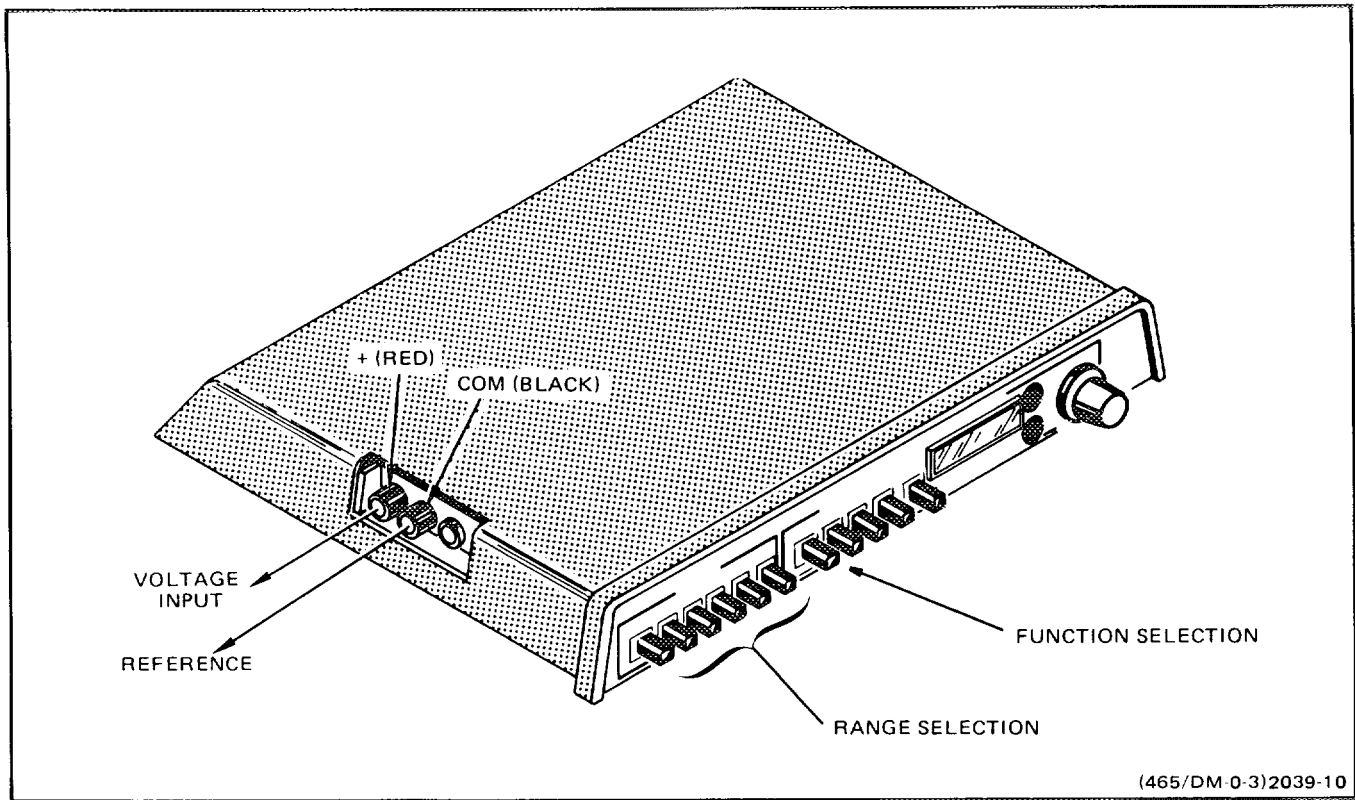

Fig. 11. Volts.
1. Push in the VOLTS FUNCTION button and the 1.2 kV RANGE button. See Fig. 11.